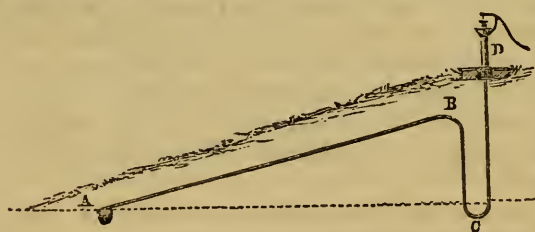

Fig. 175.
*Answer.*—Lay the pipe in the direction A B C D, (fig. 175,) or in any other direction touching A C D. C being lower than A, water will not flow back to it. Lay below frost. A. Spring—D. Pump—Dotted line, Level.